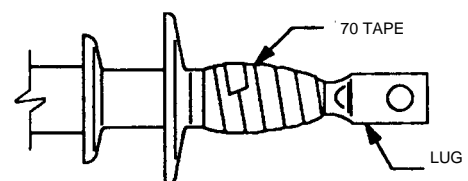

Figure 7
2. Wrap 4 half-lapped layers of Scotch™ 70 Silicone Rubber Tape over the lug and onto the insulator for 1" (25 mm) (**Figure 7**). **TAPING HINT: Apply first 3 layers with moderate tension. Apply last lap with zero or very little tension.**